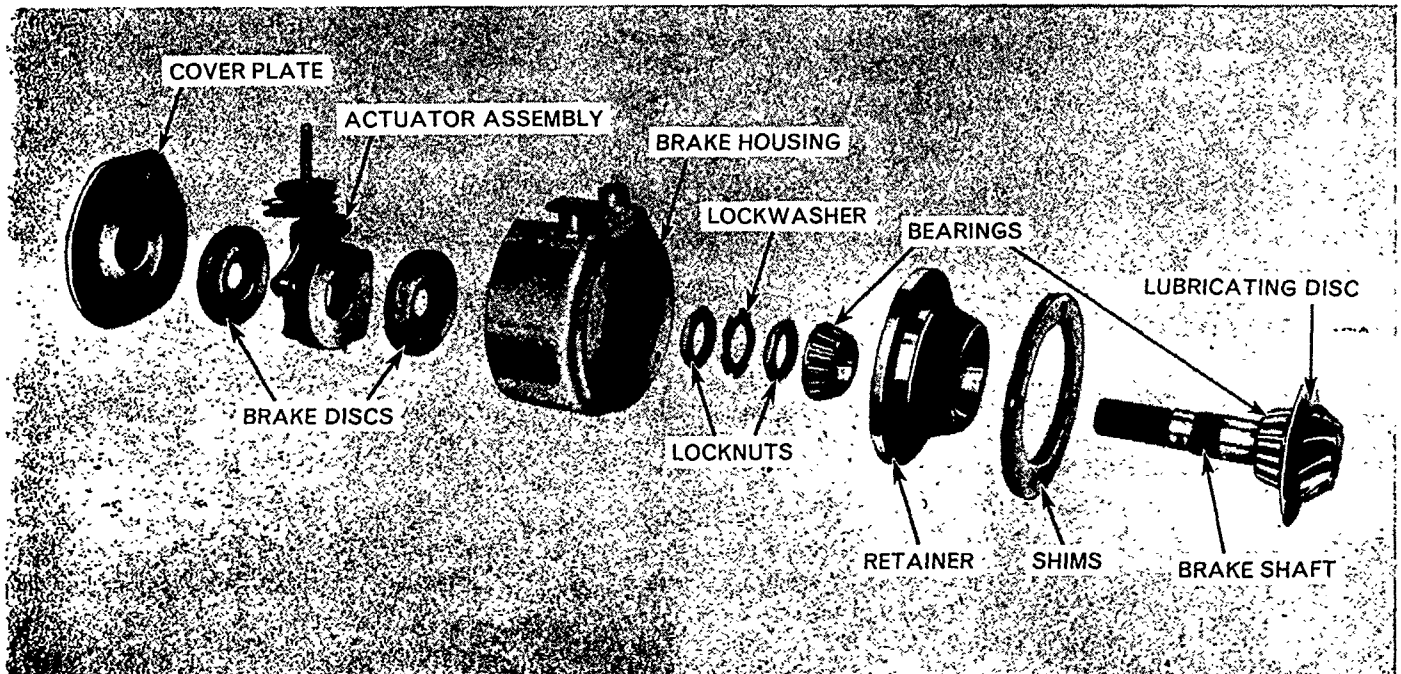

Figure 35
9. Remove the outer cone and roller bearing and the inner cone and roller bearing, oil deflector and handbrake shaft assembly from the bearing retainer, Figure 35.